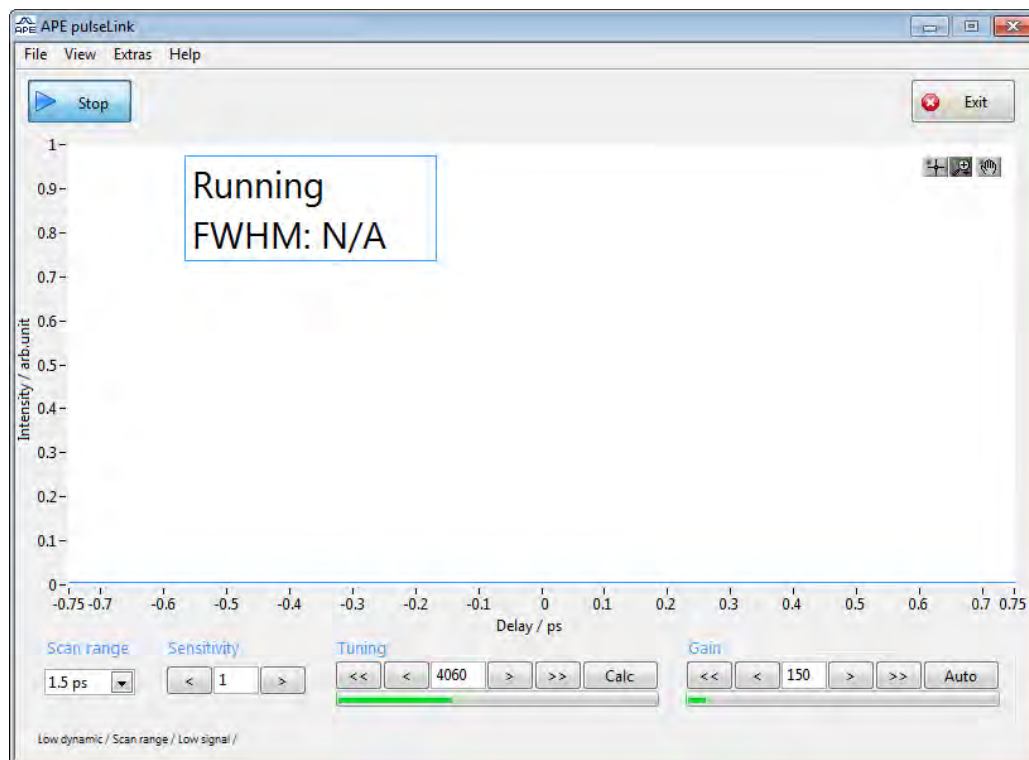

Figure 4.5.: By pressing the "Start" button the linear scanner motor starts running
1. With established communication (see Section 4.1), press the "Start" button to get the scanner motor running (see Figure 4.5).